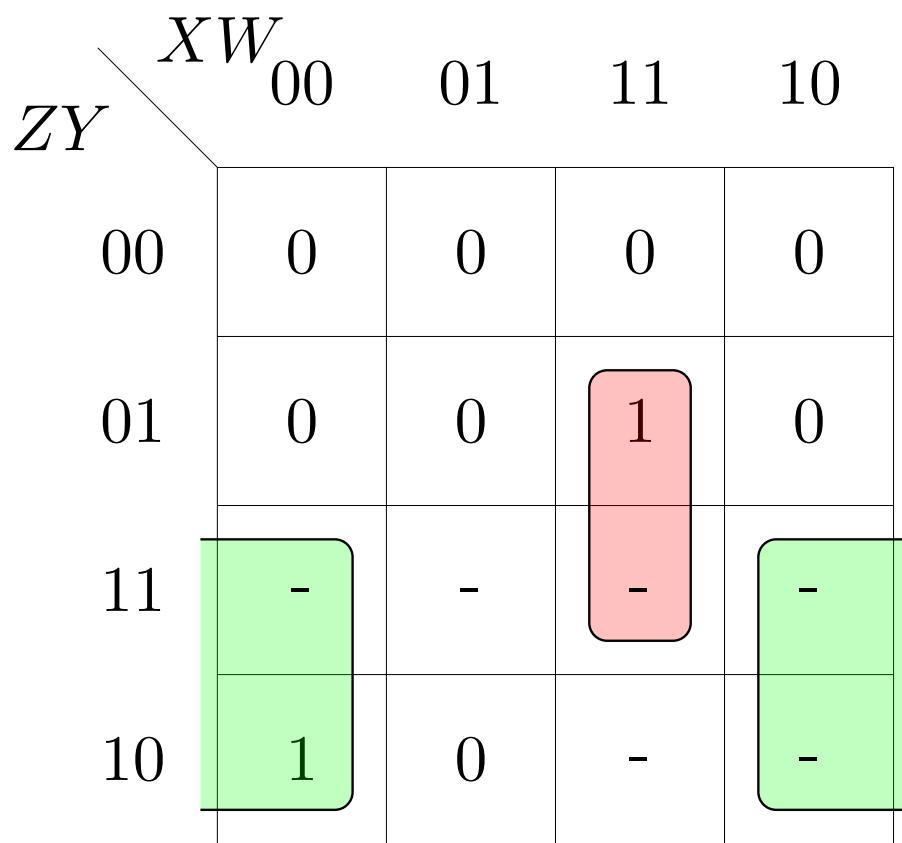

Figure 4.8: K-map for  $D$  with don't cares
5. The revised K-map for D is available in Fig 4.8 Show that